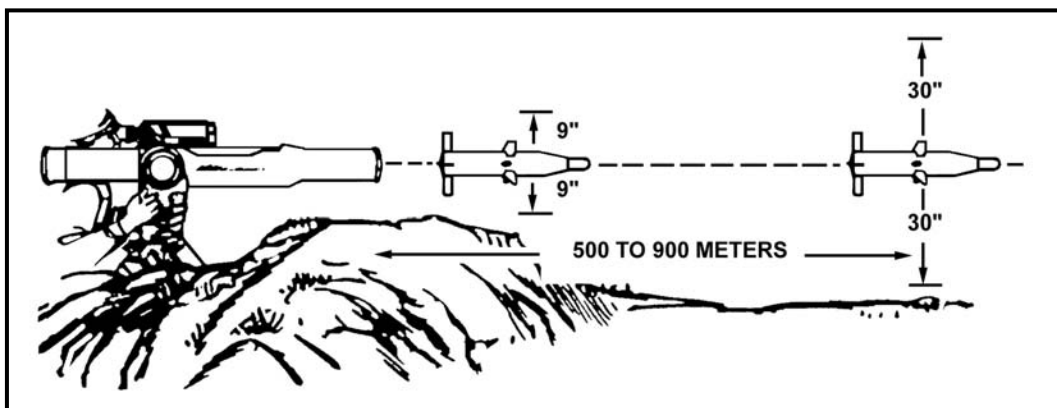

Figure 2-3. Clearance requirements.
f. **Clearance Requirements.** The TOW muzzle must have at least nine inches of clearance at the end of the launch tube so the wings and control surfaces of the missile will not be damaged when they extend after clearing the launch tube. The muzzle of the launch tube must extend beyond any enclosure, window sill, or aperture, and at least 30 inches of clearance must be between the line of sight and any obstruction from 500 to 900 meters downrange. A 30-inch line-of-sight clearance ensures a high probability the missile will not strike the ground on the way to the target (Figure 2-3).